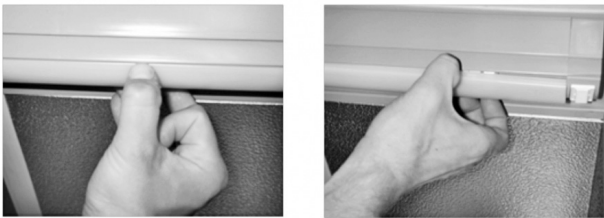

Fig. 15: Lamp cover
2. Detach and pull out the lamp cover (transparent part) by pressing the housing together slightly (see Fig. 15).